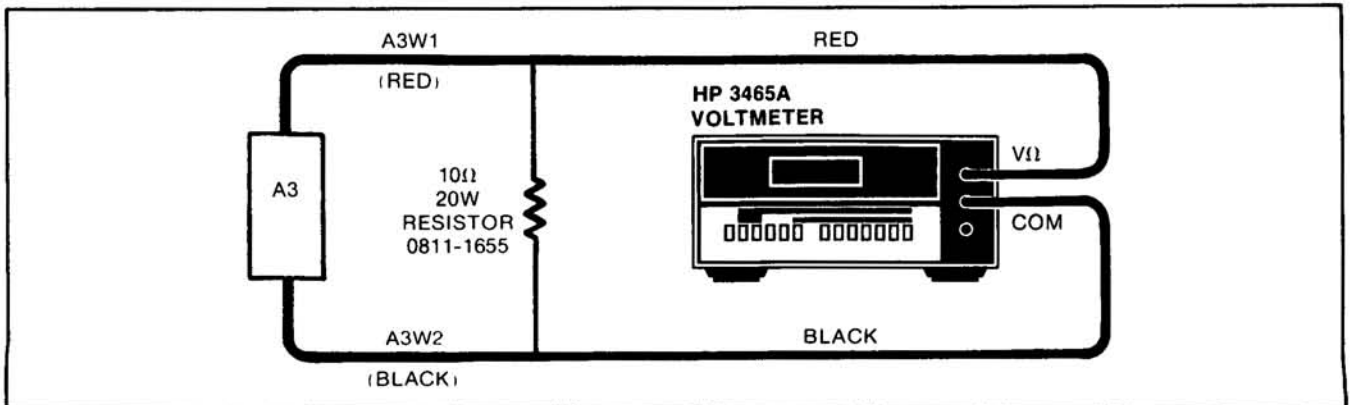

Figure 5-9. Fast Charge Current Adjustment Setup
b. Connect the A3 battery charger to an HP 3465A voltmeter and 10Ω, 20W resistor as shown in *Figure 5-9*.